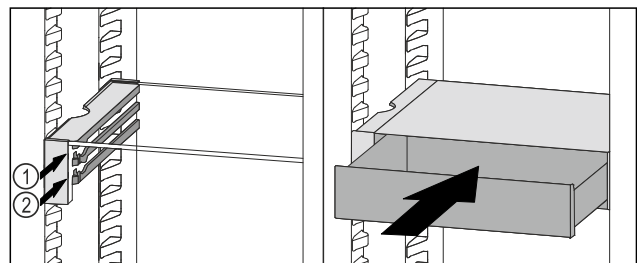

Fig. 158
- ▶ Place the VarioSafe drawer behind the stoppers on desired rib *Fig. 158 (1)* or *Fig. 158 (2)*.